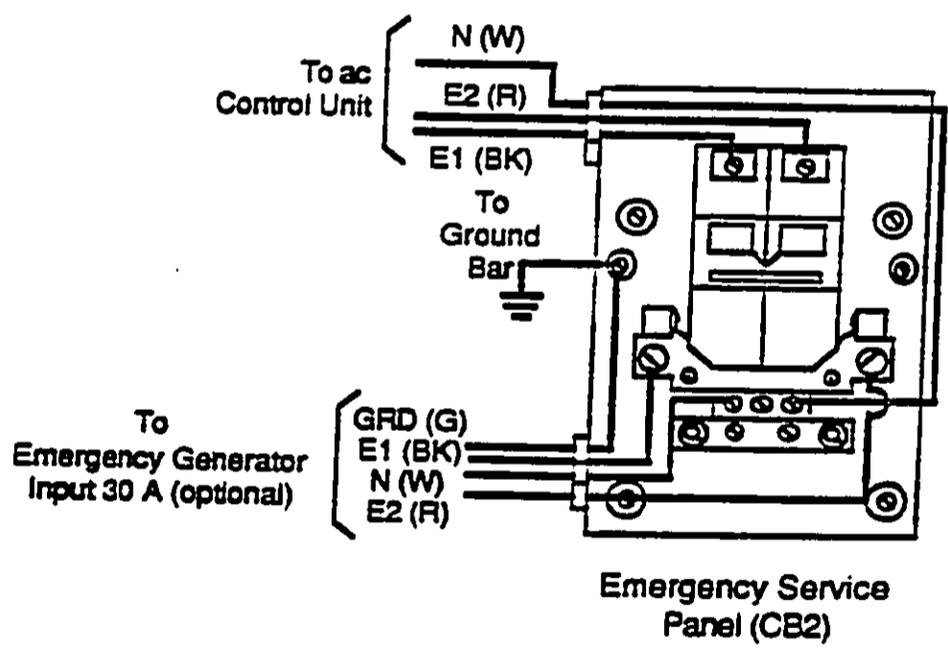

Fig. 2-14
*Note: If the optional emergency generator is available, see Fig. 2-14 for wiring information.*